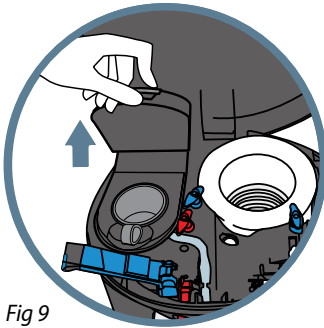

Fig 9
- Turn the red twist locks on each side to release the front K-Cup® cafe assembly. (Fig. 9).